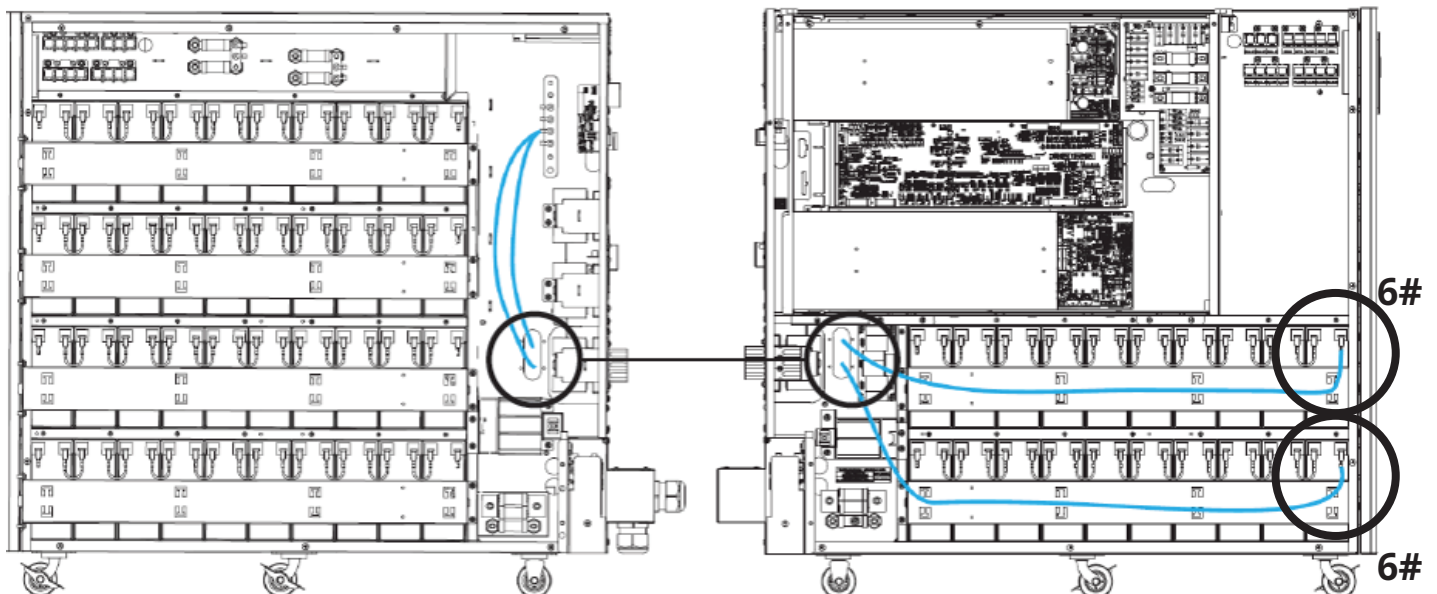

Figure 3-16: Connect Left Battery Packs to the Copper Plate (N-Pole).
11. Connect the left two battery packs to the copper plate (N-pole) (Figure 3-16).